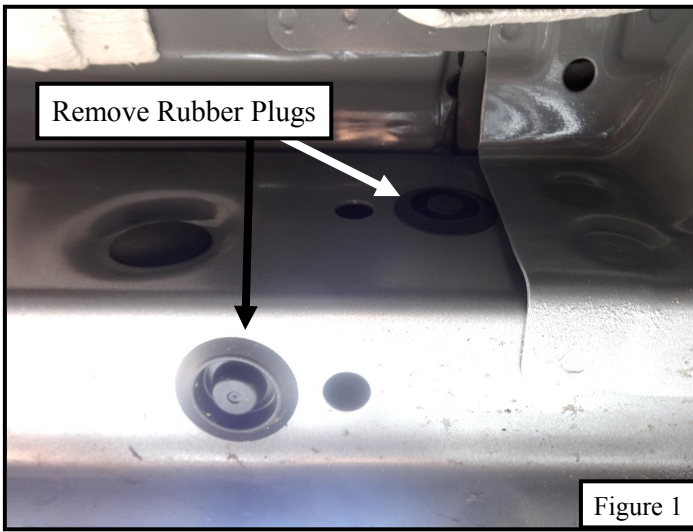

Figure 1
- Remove the rubber plugs located on the rocker panel at each bracket mounting location. See **Figure 1**.